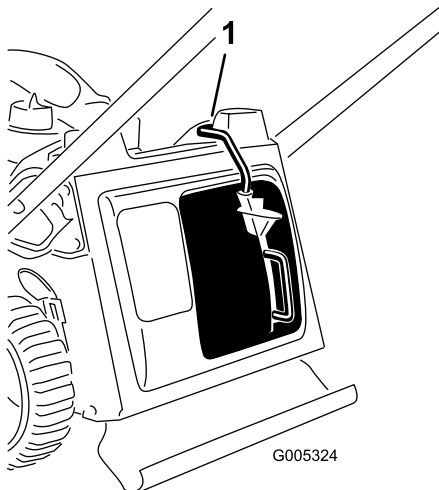

Figure 30
**Important:** The mower has a safety switch that prevents you from starting the mower unless you first install the mulch plug securely on the mower (Figure 30).
Install the mulch plug as illustrated in Figure 30.